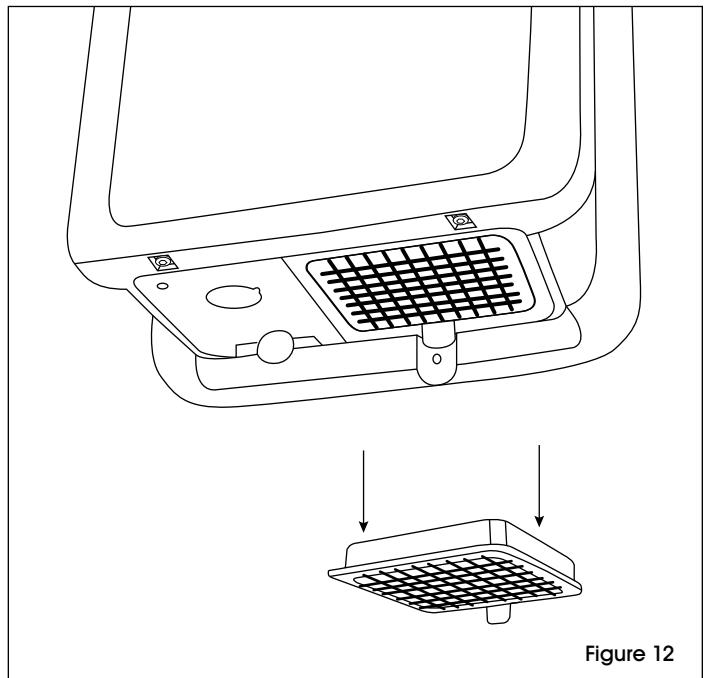

Figure 12
1. To change filter, pull tab on filter in and down. Replace with authentic ffuuss HEPA H13 filter. (See Figure 12).